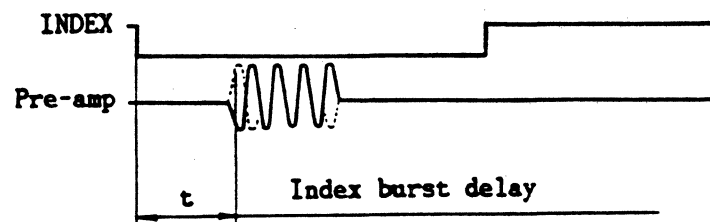

Figure 4-14 Index Burst Timing
Refer to Figure 4-14.
4. Measure the duration of "t" in Figure 4-14.